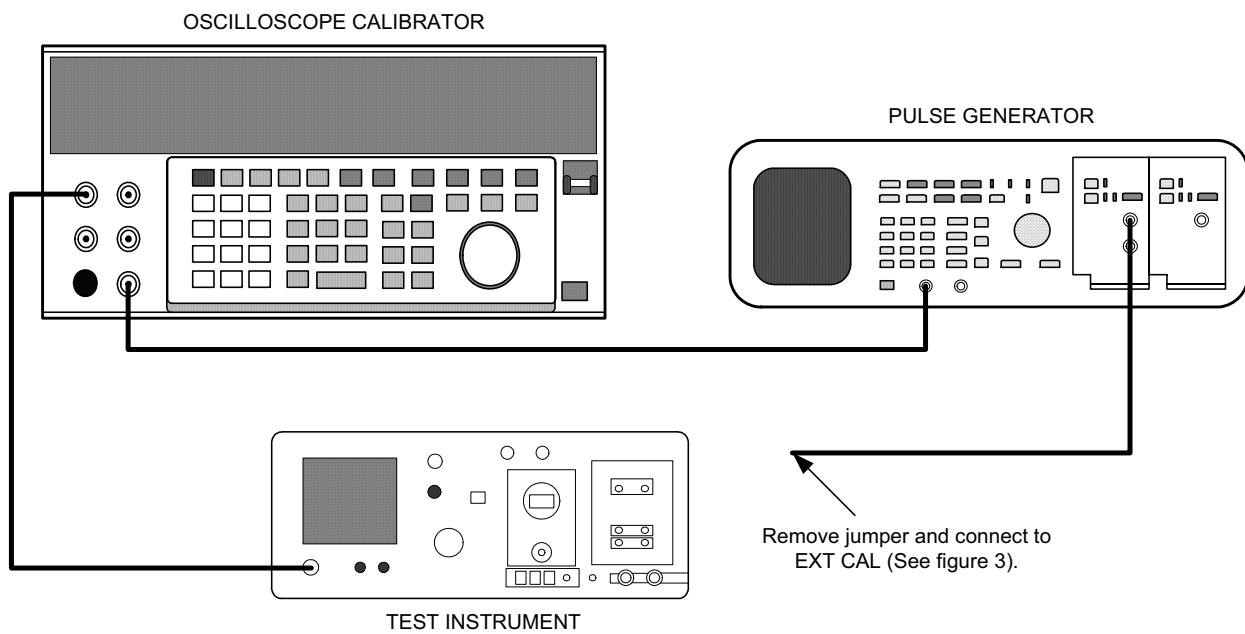
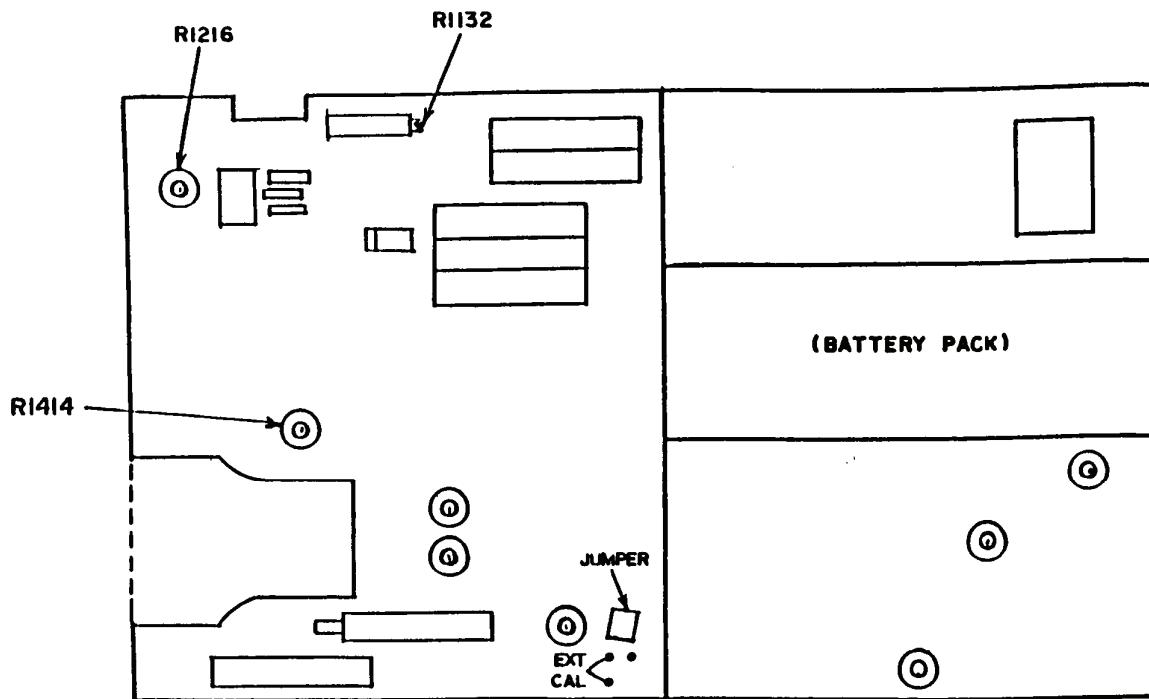

Figure 2. Timing - equipment setup.
Figure 3. - Main board - bottom view.
(1) Set **RET LOSS (dB)** (**SENSITIVITY (dB)**) switch to **20 dB** and **FEET/DIV** switch to **50**.
(2) Connect equipment as shown in figure 2.
(3) Adjust pulse generator for -5 V output and pulse width of 100 μ s and external triggering.
(4) Set oscilloscope calibrator **MODE** for 1 μ S markers and **TRIG** to /100.
(5) Adjust pulse generator amplitude and pulse width for a stable 1 μ S marker display on TI.
(6) Using **ZERO REF SET** control, move TI pulse off screen. Adjust oscilloscope calibrator to align markers with display graticule lines. If oscilloscope calibrator does not indicate 1 μ S \pm 2 percent, perform **b** below.
b. Adjustments. Adjust R1216 (fig. 3) to align 1 time marker per graticule division.
b. Adjustments. Adjust R1414 (fig. 3) until second time marker is aligned with leading edge of second graticule line. Check that the pulse is at the same point on the graticule when the **ZERO REF CHECK** button is pressed.
- (1) Set multiplier switch to X100.
- (2) Set oscilloscope calibrator for $1\mu\text{S}$ markers and adjust for 1 marker per graticule division display. Oscilloscope calibrator will indicate $1\mu\text{S}$, ± 2 percent.
- (3) Deenergize TI; remove all connections, and replace **EXT CAL** connector (fig. 3).
- (4) Energize TI and press **IMPLS WIDTH (ns) 100** pushbutton, (Set **TEST PULSE SHORT/MED/LONG** switch to **MED**) and set **RET LOSS (dB)** (**SENSITIVITY (dB)**) switch to **0 dB**.
- (5) Adjust **ZERO REF SET** control to position leading edge of pulse display on graticule centerline.
- (6) Set multiplier switch to **X10** while observing pulse display. If leading edge does not remain on graticule centerline, perform **b** below.
- (1) Adjust R1132 (fig. 3) to align leading edge of pulse display on TI graticule centerline.
- (2) Alternately set multiplier switch between X100 and X10 positions while adjusting R1132 (fig. 3) for no movement of display.